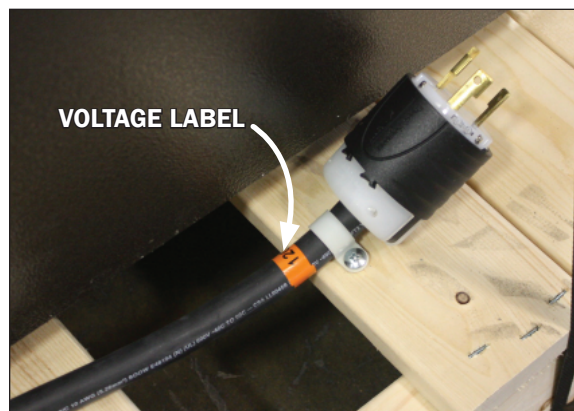

Fig. 8 Main power cord voltage label
Prior to plugging in and starting up the case always check the data tag located on the left end exterior panel or top interior of the case, as well as the voltage label found on the main power cord (Fig. 8) which can be found at the rear base panel. **Note:** **Check that the voltage of the receptacle you are going to use for power and the voltage required for the case match.**
1. After the main power cord (Fig. 8) located at the rear base panel of the case is plugged in and the power switch flipped to ON the case should begin normal operations.